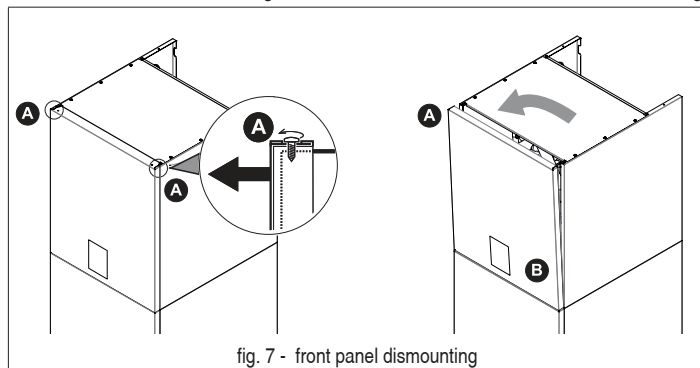

fig. 7 - front panel dismounting
- Partially unscrew the screws A (see "fig. 7 - front panel dismounting").
- Pull the panel B out and release it from the upper fixings (see "fig. 7 - front panel dismounting").